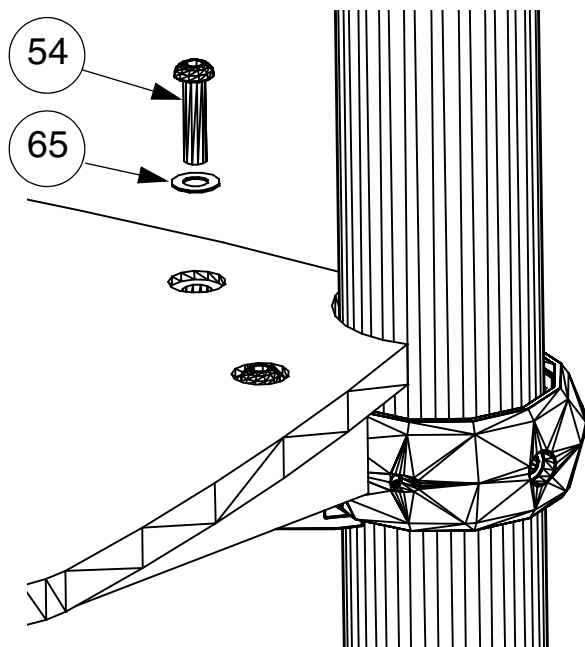

FIG.21
33) Position Deck (item 23) onto Deck frame as shown and secure using 7 off M10 x 40 Resistorx bolts (item 54) and M10 Washer (item 65) in positions shown. See FIG.21 & 22.
40) Position Deck (item 25) onto Deck Frame as shown at 900mm Deck Height and secure using 7 off M10 x 40 Resistorx bolts (item 54) and M10 Washers (item 65) in positions shown. See FIG.21 & 31.